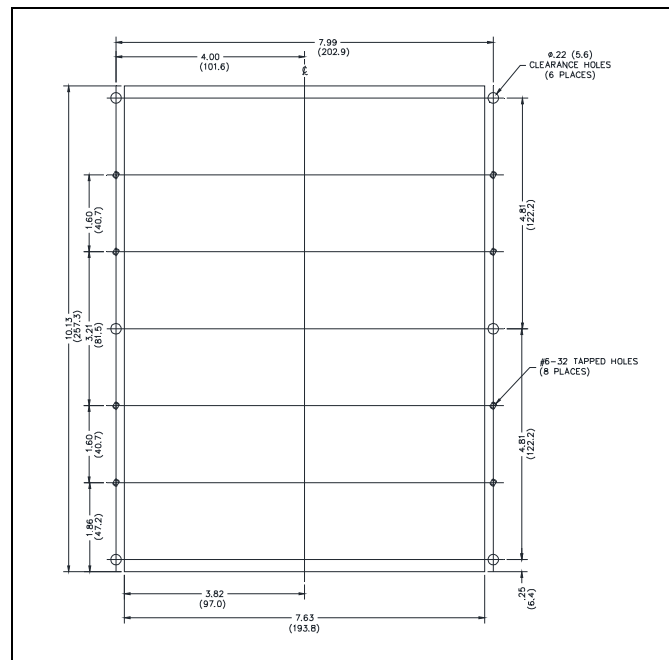

Figure 3. Flush-Mount Cutout Details
5. Mount the back box to the structure using appropriate hardware (see Figure 3 for cutout dimensions).